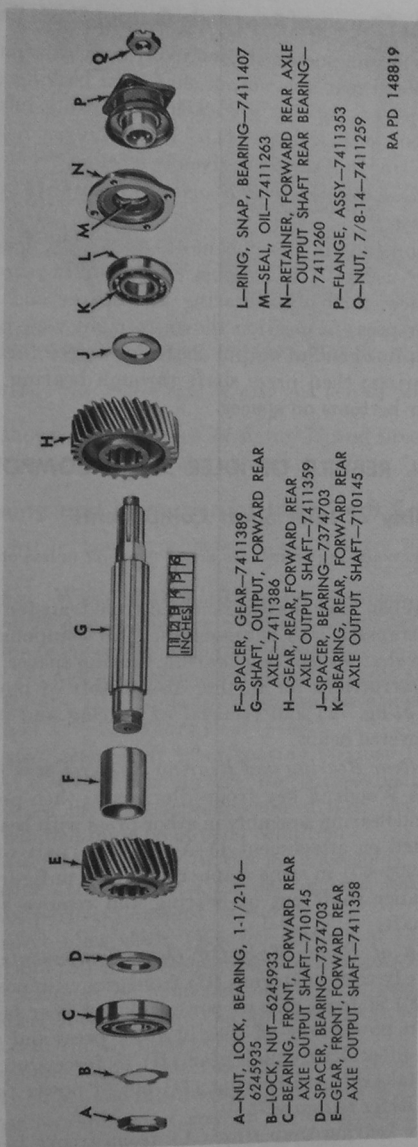

Figure 74. Forward rear axle output shaft components.
*a. General.*—Forward rear axle output shaft components are disassembled as they are removed from transfer case (par. 91), except forward rear axle output shaft rear boring (K, fig. 74) and bearing spacer (J, fig. 74) which must be removed as directed in *b* below.
*Note.* Key letters noted in parentheses are in figure 74.
*a. General.*—Gaskets, oil seal, and bearing nut lock should be discarded and new parts obtained for use when assembling. The only one of this group of components which may be repaired is the flange assembly (P).
- (1) Inspect threads in bearing lock nut (A) and  $\frac{7}{8}$ -14 nut (Q) and threads on each end of forward rear axle output shaft (G). Obtain new parts for assembly if threads are stripped or damaged.
- (2) Rotate races of bearings by hand and check for roughness at races and balls. Also check bearings for wear and examine for cracked or broken balls and races.
- (3) Bearing spacers (D and J) and gear spacer (F) must be inspected for damage. Wear will not normally occur at these parts since the shaft, gears, and spacers rotate as an assembly.
- (4) Examine splines on forward rear axle output shaft (G) for evidence of twisting and other damage. Replace shaft if any damage is evident.
- (5) Examine teeth and splines on forward rear axle front (E) and rear (H) gears. Replace gears having chipped, broken, or worn teeth or splines.
- (6) Inspect forward rear axle output shaft rear bearing retainer (N) for damage. Check gasket surface for flatness with straightedge. Replace retainer if damaged.
*a. General.*—All components of forward rear axle output shaft and gears except forward rear axle output shaft rear bearing (K, fig. 74) and bearing spacer (J, fig. 74) are assembled during installation of components in transfer case (par. 114). Procedure for installing output shaft rear bearing and spacer is given in *b* below.